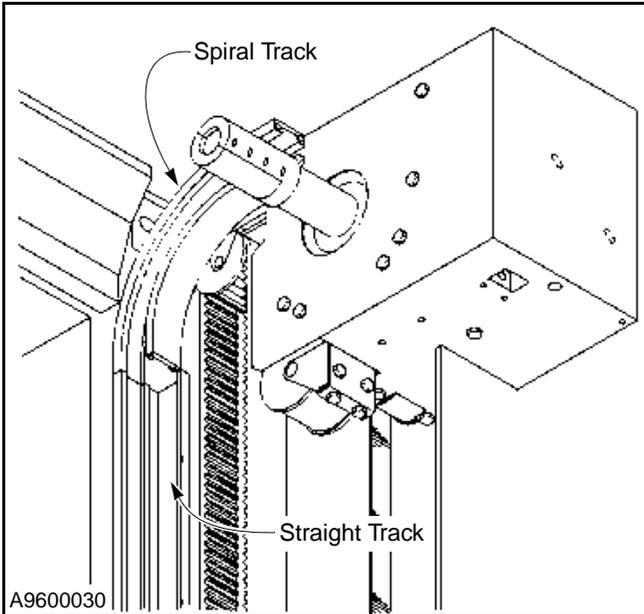

Figure 28
- Slide each length of straight track up tight against the spiral track. To secure the track to the side column, lock the retaining clips to the track by threading the hex nut tight against the clip. (See Figure 28.)